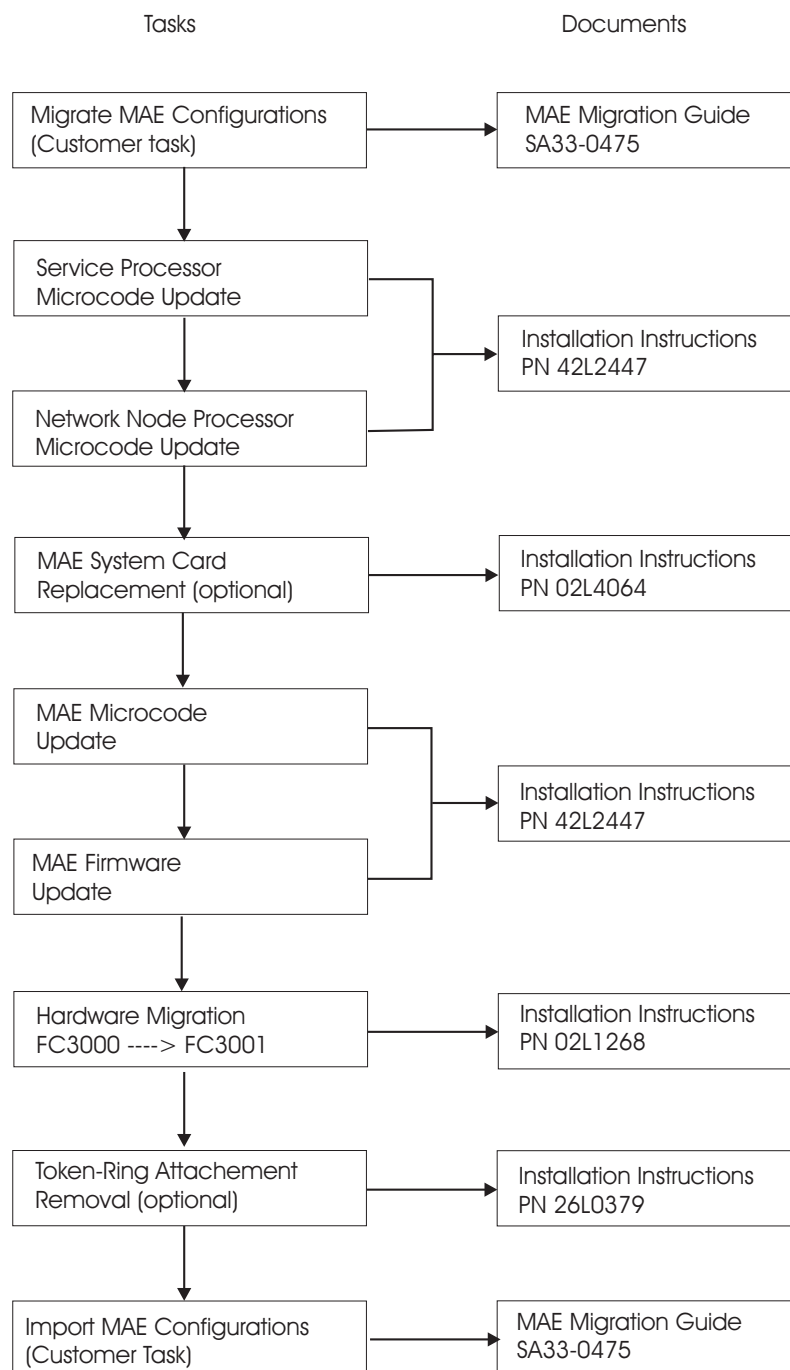

Figure 2. MAE FC 3000 to 3001 Migration Scenario
- Familiarize yourself with the purpose and details of the installation instruction before negotiating machine time with the customer (refer to Figure 2 on page 8).
If you are migrating a MAE from FC 3000 to FC 3001, refer to Figure 2 to get the sequence of the installation tasks and the documentation to be used.